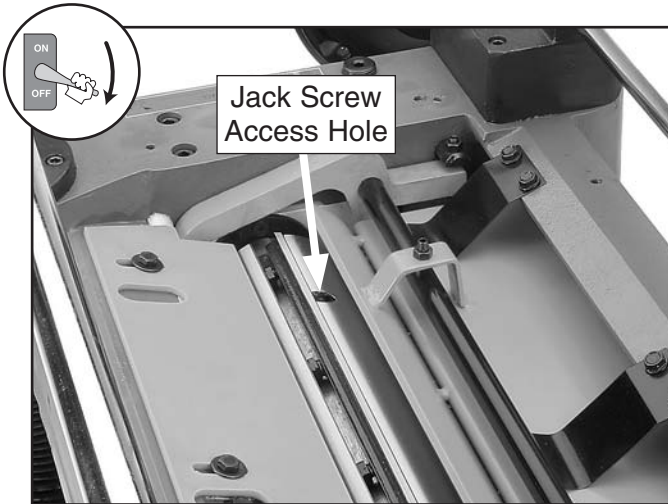

Figure 36. Jack screw access hole in the cutterhead.
- Jack Screws (G0453 & G0454):** Insert the hex wrench into the jack screws through the access holes in the cutterhead (see **Figure 36**). Rotate the jack screws to raise or lower the knife until it barely touches the center pad of the knife gauge with all legs of the gauge still firmly on the cutterhead, then snug the gib bolts enough to hold the knife in place.